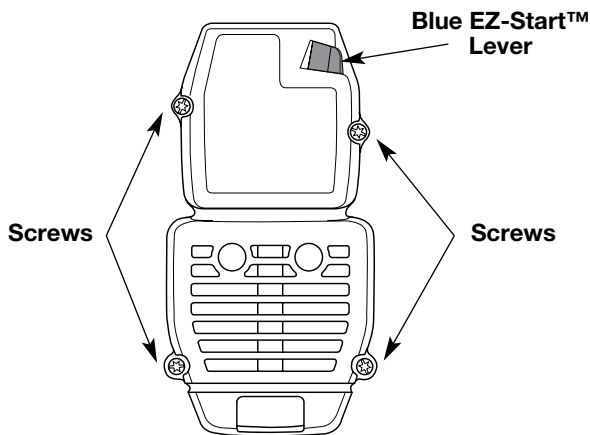

Fig. 23
1. Remove the four (4) screws securing the air filter/muffler cover (Fig. 23). Use a T20 Torx bit screwdriver.